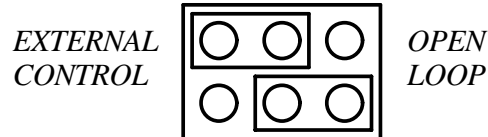

Figure 8.4: Control selection for Voltage-Mode Control plug-in board
- Set the control selection jumpers J2 and J3 (J-5 in Fig. 1.2) as shown in Fig. 8.4.